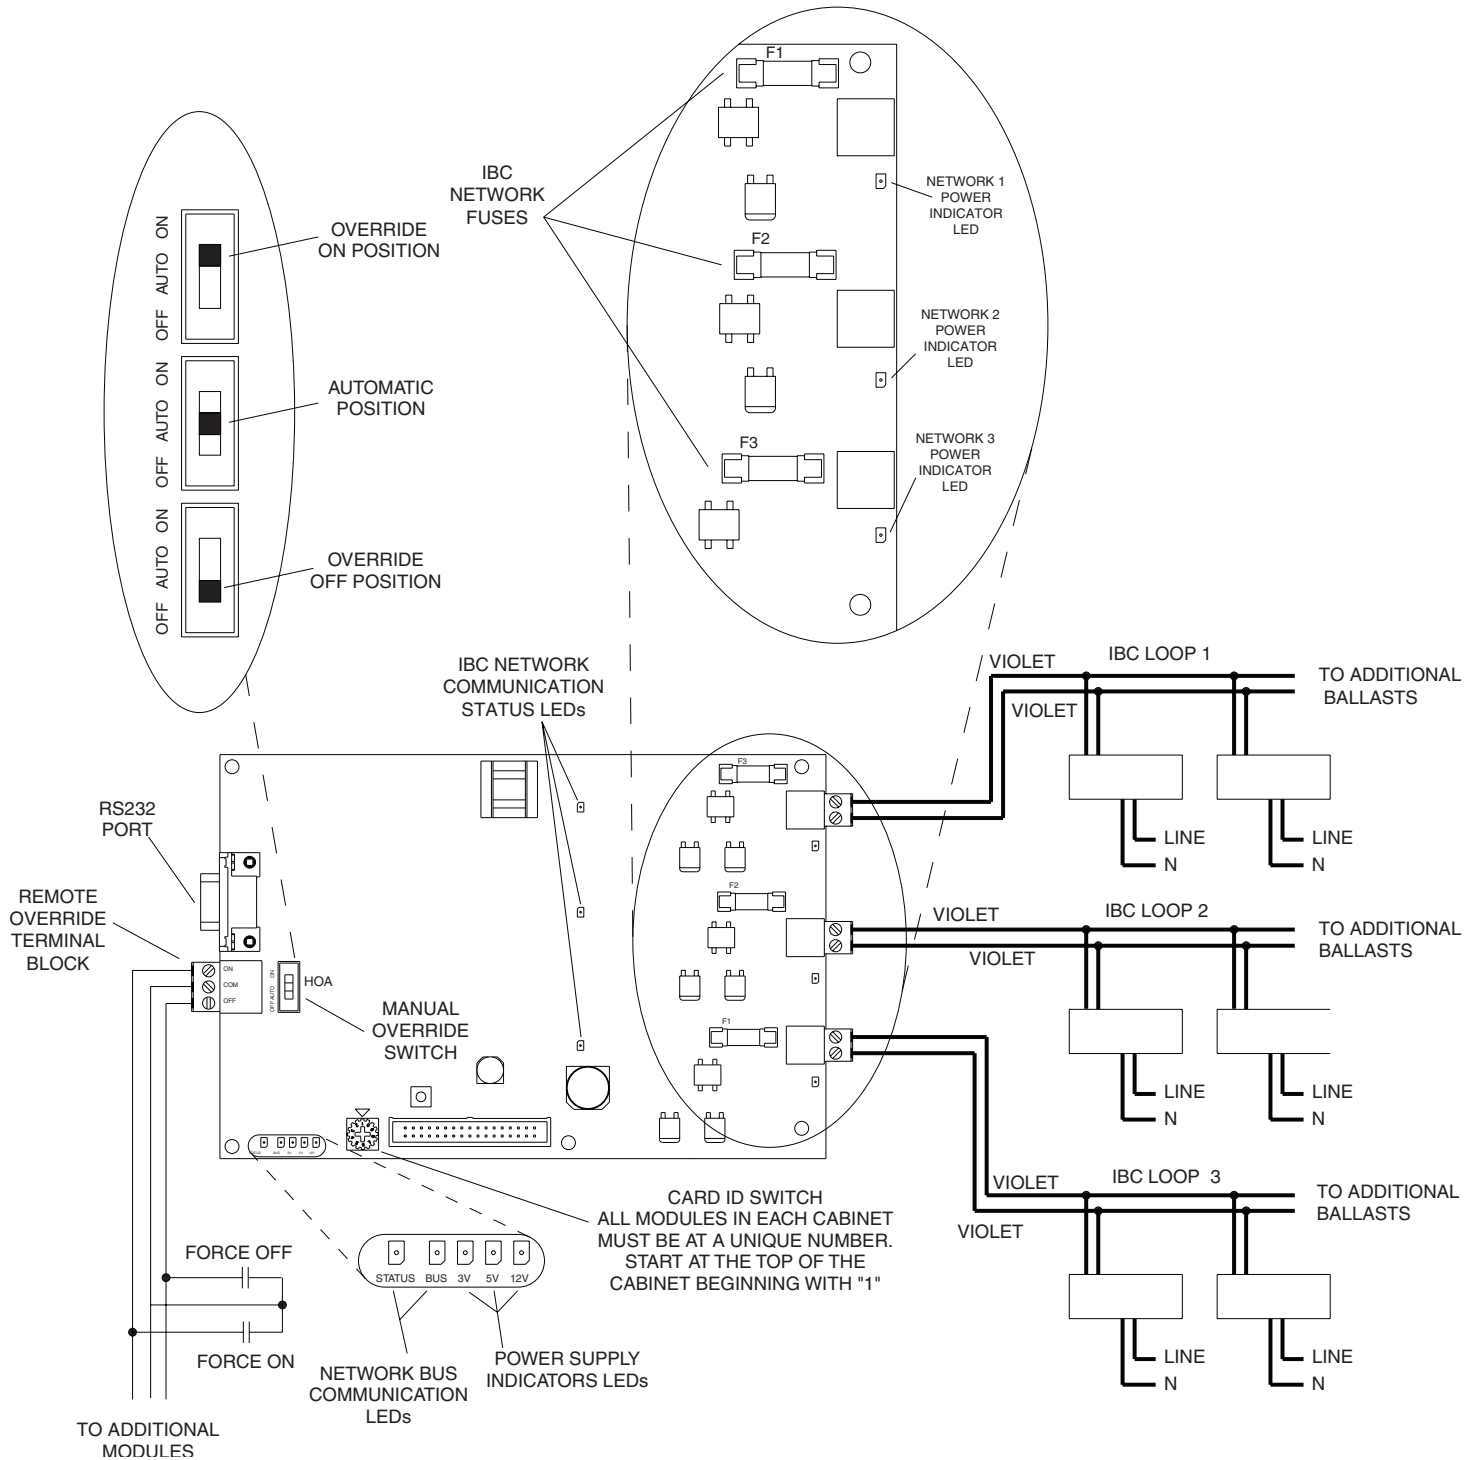

Figure 1 - SYPM S5BC Wiring Detail
Rotate the power module card ID switch to the address 1 position. (See *Figure 1*) Plug the male connector on the ribbon cable into the female socket on the power module. **Ribbon cable installs behind the modules.**
Each DALI/SIMPLY5 has a pair of control wires. Each control pair should be terminated on a DALI/SIMPLY5 network plug-in connector on the power module, (See *Figure 1*). Refer to Synergy supplied Installation drawings and any additional accessory instructions or project specifications for details. **A maximum of 64 DALI/SIMPLY5 ballasts can be connected to a single SIMPLY5 network.**
1. Verify the three "Manual Override Switches" are in the **ON** position. (See *Figure 1*)